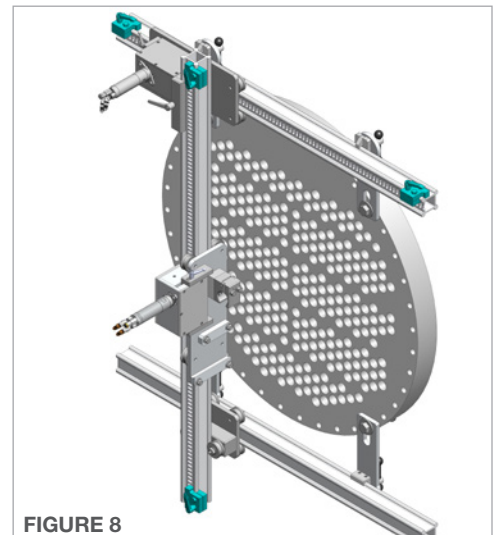

FIGURE 8
- Install the four **Rail Stops** at both ends of the top, slotted, horizontal rail, and both ends of the vertical slotted rail. **(Figure 8)**